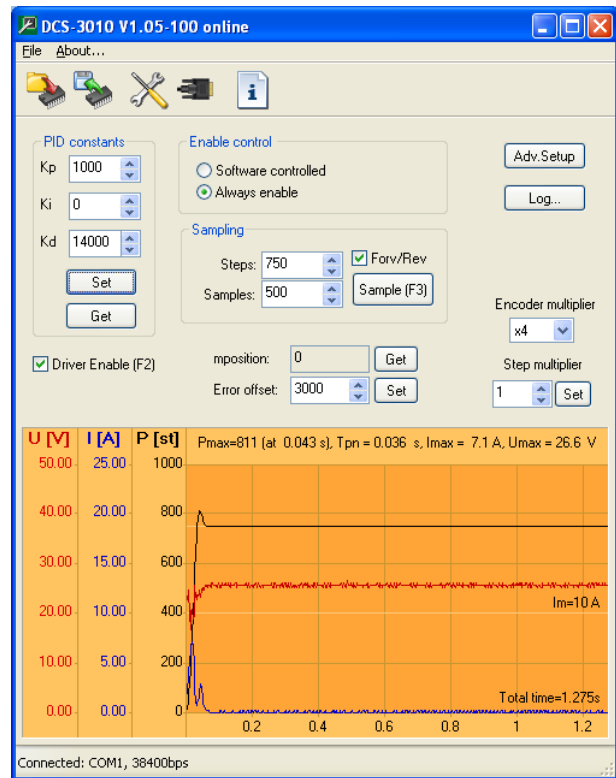

Figure 10.2
STEP 2: Increase the K_d constant until the system response "settles down" (Figure 10.2). The constant K_d can be significantly higher than the constant K_p .